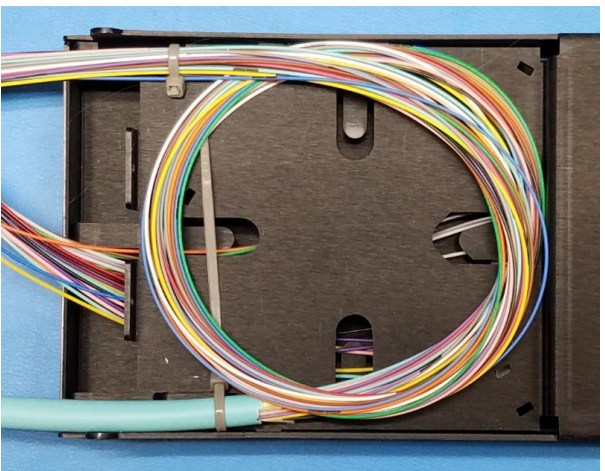

Figure 6
3.8 Separate the trunk fibers into each 12 fiber group. Provide one loop of slack storage for the exposed trunk cable in the bottom cover storage area (**Figure 6**). Temporarily secure the loop with a second tie wrap. Install the bottom cover and turn the module over.